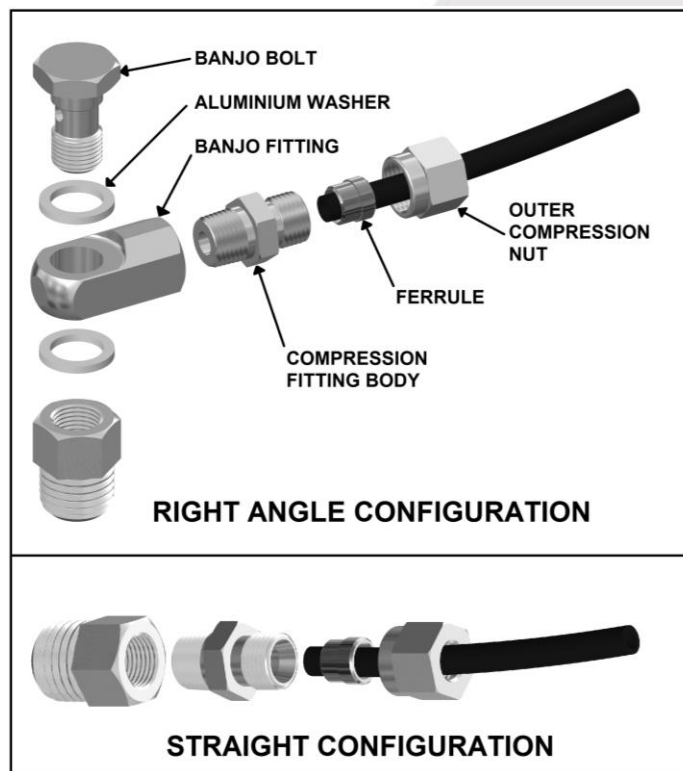

Figure 18.
- ☐ Assemble an aluminium washer onto the banjo bolt and insert through the banjo fitting. Assemble second aluminium washer and tighten into bulkhead fitting using a 14mm [9/16"] spanner. (Fig.18.)
- ☐ Insert the outer compression nut and ferrule over the air line. Ferrule should be orientated as per Fig.18.
NOTE : When right angle routing of the tube is not required, screw the compression fitting body straight into the bulkhead fitting body (Fig.18.).